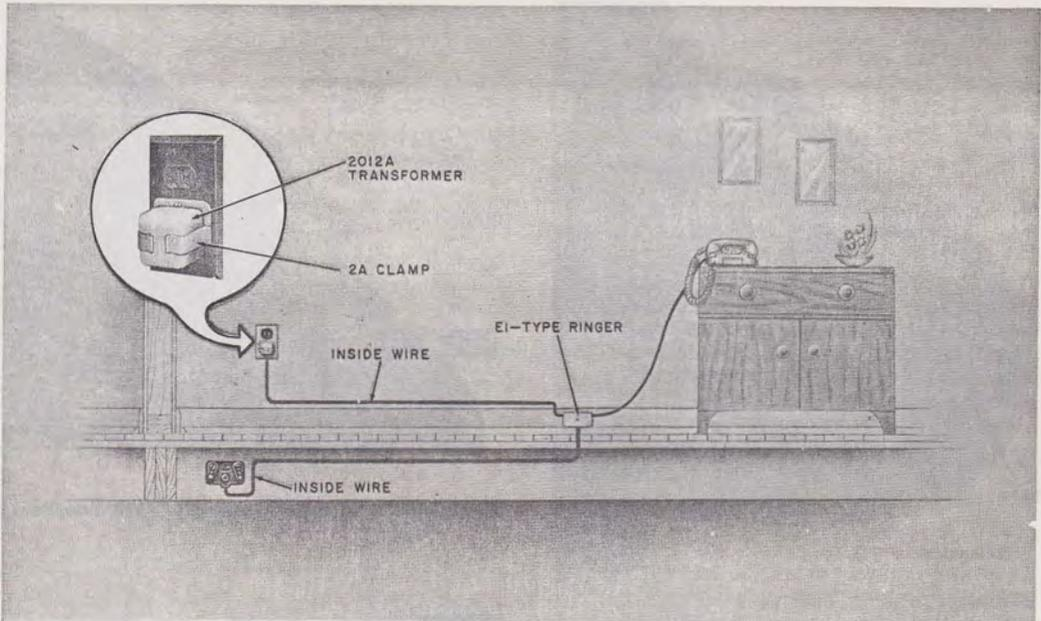

Fig. 4—Typical Installation of 701B Telephone Set
3.04 When an external ringer is required, install an E1-type with each 701B telephone set (Fig. 4).